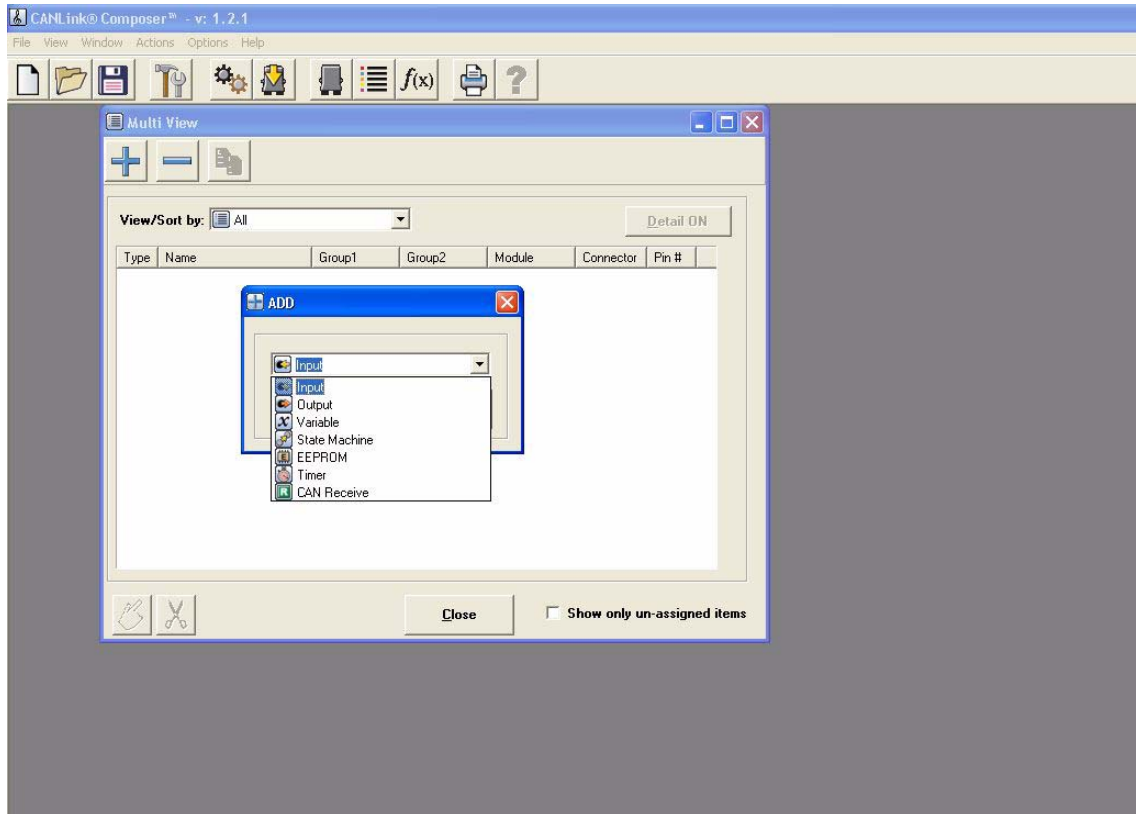

Figure 8
4. The **Multi View** window opens automatically (**Figure 8**).